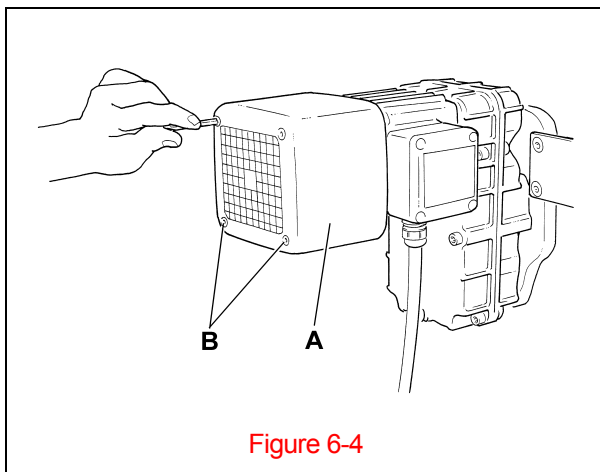

Figure 6-4
- 2) Remove the trolley Motor Cover (A) by unscrewing the 4 Screws (B) (see Figure 6-4).